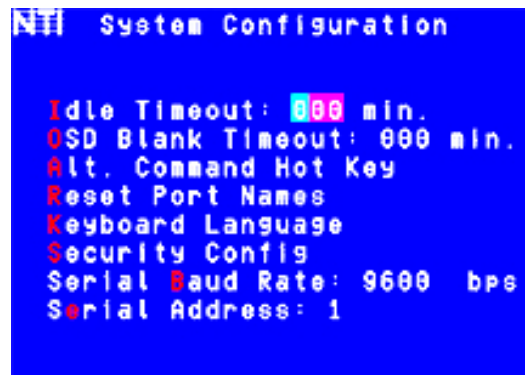

Figure 30- Change value of Idle Timeout
1. press  from the System Configuration menu (page 22) to display the edit field around the value (see Figure 30)